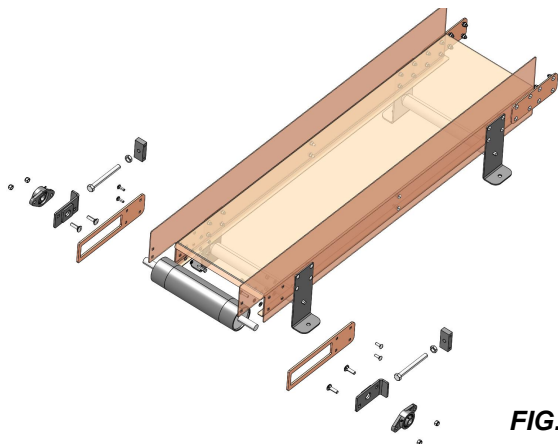

FIG. 3-17
3. Install a roller and all the hardware to the end of the conveyor assembly as shown in FIG. 3-17.